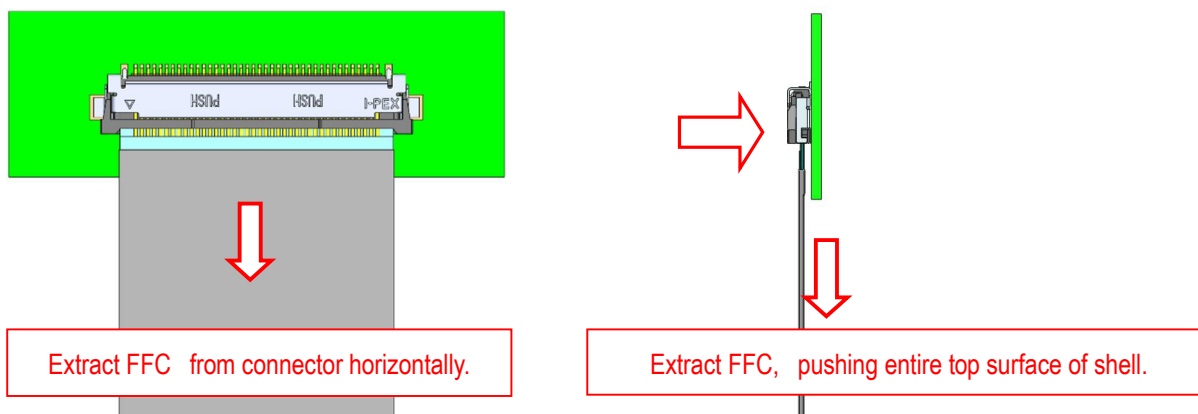

Fig.4-2 FFC Extracting Method 2
- ② Push the top surface of shell and extract FFC from the connector horizontally. (Fig.4-2)